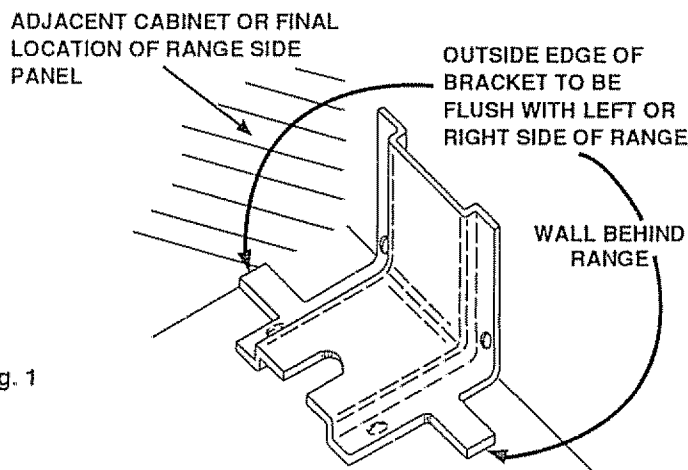

Fig. 1
2. If the bracket side of the range is adjacent to a cabinet, place the bracket against back wall and cabinet as shown in Figure 1.
If there is no adjacent cabinet, determine where the location of the range side (painted outside panel) will be. Place the bracket with its outside edge at this location and against back wall. See Figure 1.